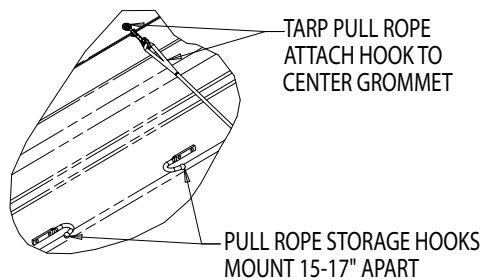

Fig. 3
18. Assemble pull rope assembly to the center grommet on the rear of the tarp. (See figure 3.)
be mounted horizontally and may be bolted (bolts not included) or welded to the dump body. The recommend distance between the hooks is 15-17". (See figure 3.)